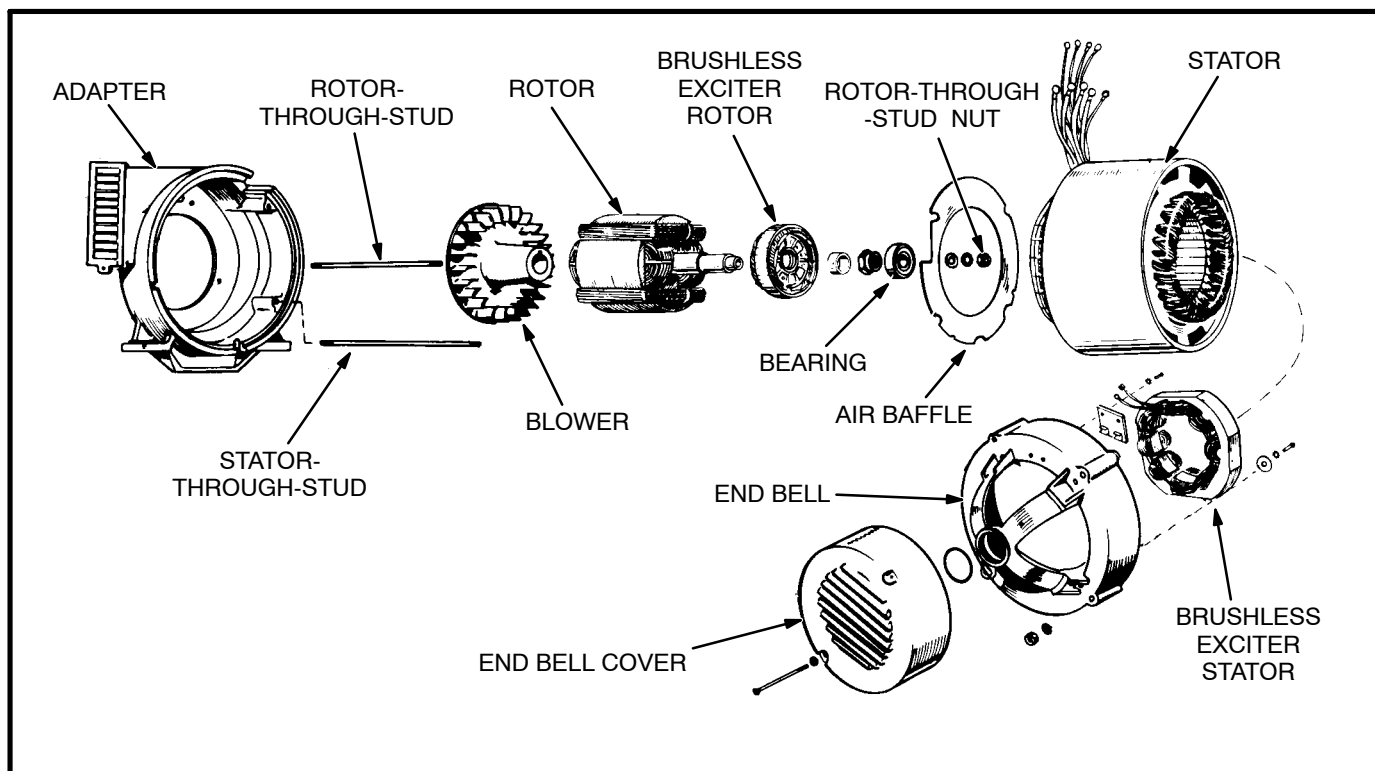

FIGURE 5-14. GENERATOR ASSEMBLY
7. Remove stator-through-stud nuts, end bell, and stator assembly (Figure 5-14). Screwdriver slots in adapter provide a means for prying stator loose from the adapter. Be careful not to let stator touch or drag on rotor.